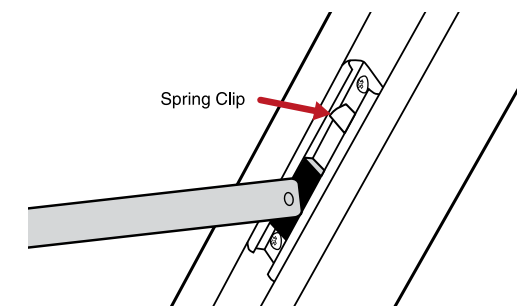

Figure 07: Location of window release clip on a tilting system
Step 2 - Detach the restrictor by pressing the spring clip and sliding the arm free (as shown in Figure 07).